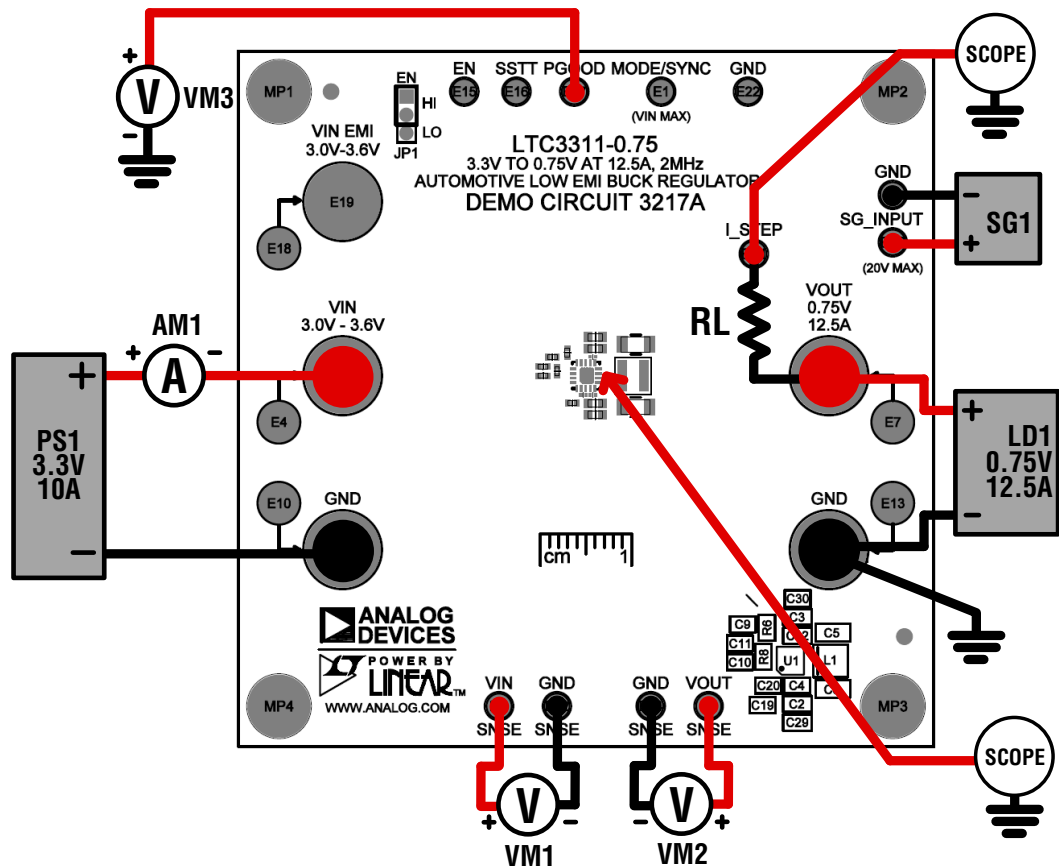

Figure 2. Test Setup for DC3217A Demo Board
Refer to Figure 2 for the proper measurement equipment setup and follow the procedure below:
NOTE: For accurate  $V_{IN}$ ,  $V_{OUT}$  and efficiency measurements, measure  $V_{IN}$  at the VIN SNSE and GND SNSN turrets, and measure  $V_{OUT}$  at the VOUT SNSE and GND SNSE turrets as illustrated as VM1 and VM2 in Figure 2. When
- To test the transient response with a base load, add the desired resistor to produce a minimum load between VOUT and I\_STEP turrets (RL shown on Figure 2). Note that the total load resistance will be  $R_L$  plus R10 (10mΩ). Adjust a signal generator with a 10ms period, 10% duty cycle and an amplitude from 1V to 2V to start.